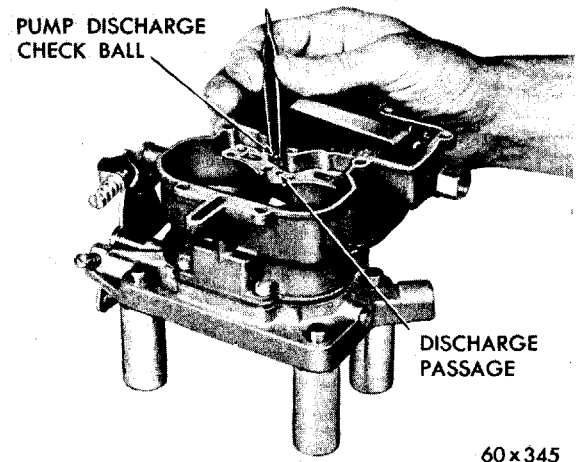

Fig. 16—Installing the Discharge Check Ball
(5) Install the accelerator pump discharge check ball ($\frac{3}{16}$ inch) in the discharge passage, as shown in Figure 16.